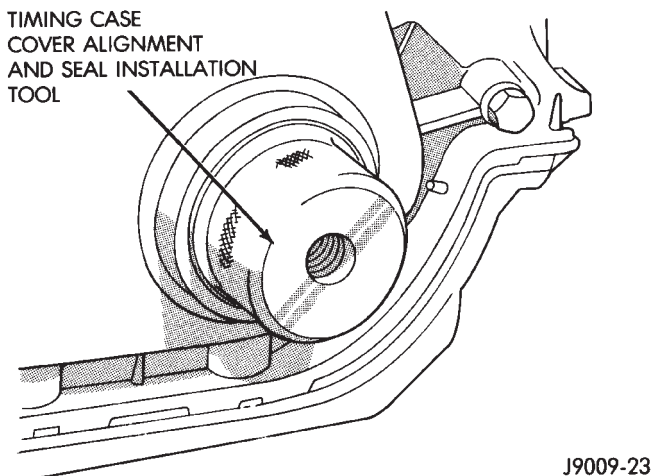

Fig. 52 Timing Case Cover Alignment and Seal Installation Tool 6139
- (5) Install the crankshaft oil slinger.
- (6) Tighten the camshaft sprocket bolt to 108 N·m (80 ft. lbs.) torque.
- (7) Check the valve timing.
- (8) Coat both sides of the replacement timing case cover gasket with gasket sealer. Apply a 3 mm (1/8 inch) bead of Mopar Silicone Rubber Adhesive Sealant, or equivalent to the joint formed at the timing case cover and cylinder block.
- (9) Position the timing case cover on the oil pan gasket and the cylinder block.
- (10) Place Timing Case Cover Alignment and Seal Installation Tool 6139 in the crankshaft opening of the cover (Fig. 52).